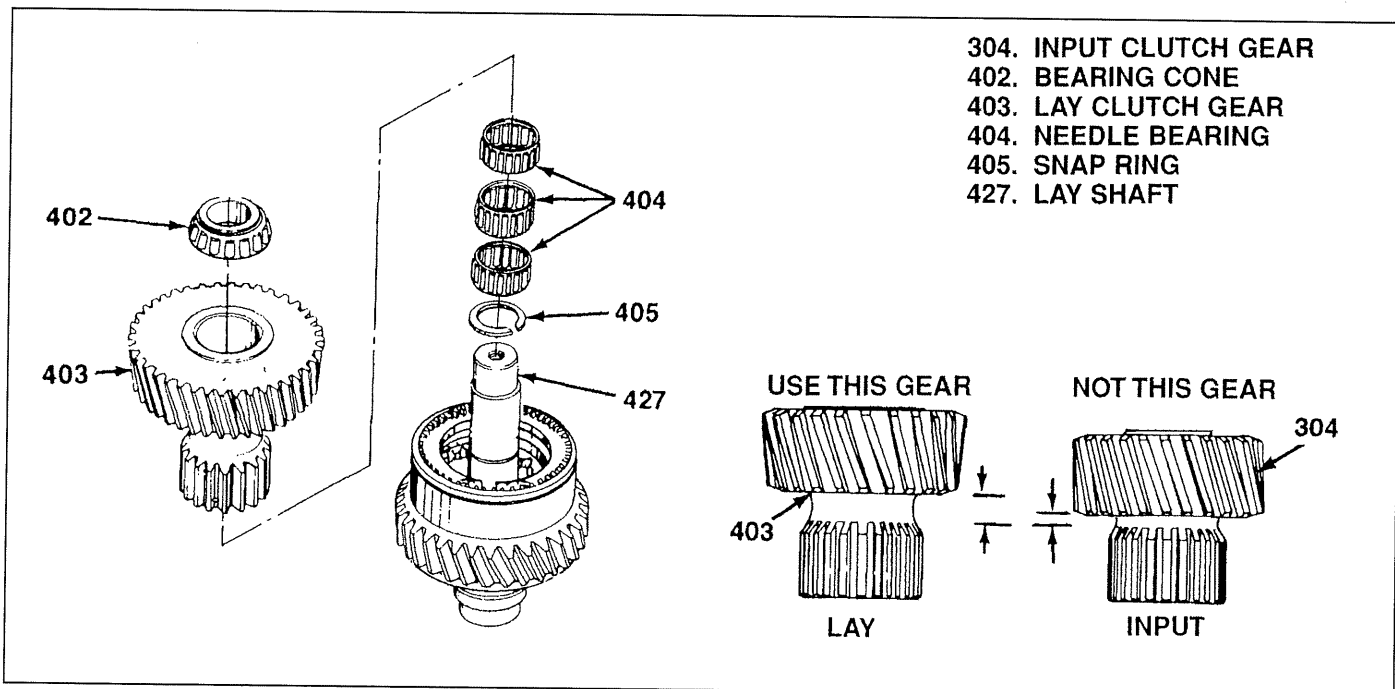

Figure 5-4: Lay Clutch Gear and Bearings
5-7 ASSEMBLY OF CLUTCH GEAR AND BEARINGS With shaft assembly in holding fixture as described in paragraph 5-5, proceed as follows (see figure 5-4):
1. Install snap ring (405) on lay shaft (427).
2. Select lay clutch gear (403) — not input clutch gear (304) (see figure 5-4). Align splines on clutch discs previously installed and install lay clutch gear (403). This is best done by using a twisting, orbiting motion. Make sure clutch gear is fully installed, engaging all clutch discs. Outside end of gear should be flush to below shoulder on lay shaft (427).
3. Install three needle bearings (404) on lay shaft (427).
4. Position shaft assembly on holding fixture in arbor press. Press bearing cone (402) on shaft to seat on shaft shoulder.